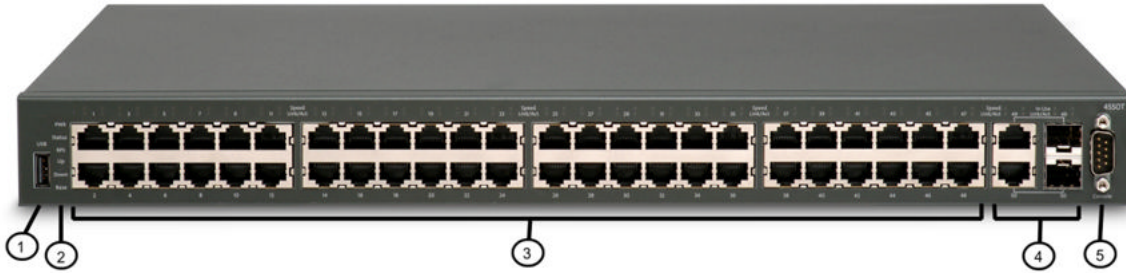

Figure 6: Avaya Ethernet Routing Switch 4550T
- Figure 6: Avaya Ethernet Routing Switch 4550T on page 39